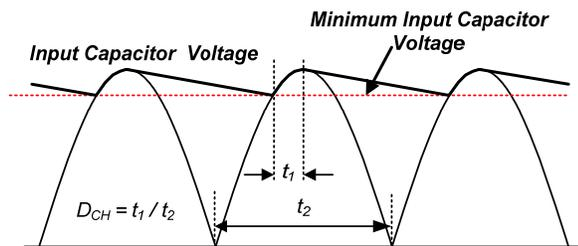

Figure 2. Input Capacitor Voltage Waveform
- Ripple factor of line voltage (D_{CH}), as defined in Figure 2.